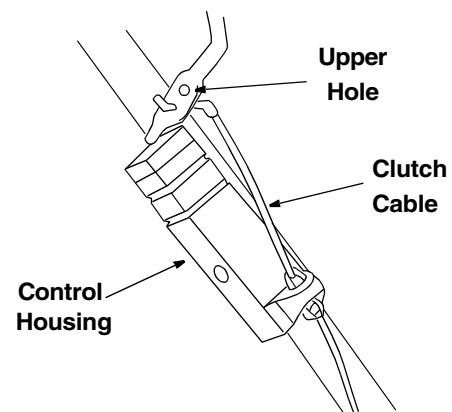

Figure 14
- The upper hole in the control handle provides adjustment for belt tension. To adjust, disconnect the "Z" end of control cable from the bottom hole in the control handle. See Figure 14. Hook the cable into the upper hole in the control handle as shown.